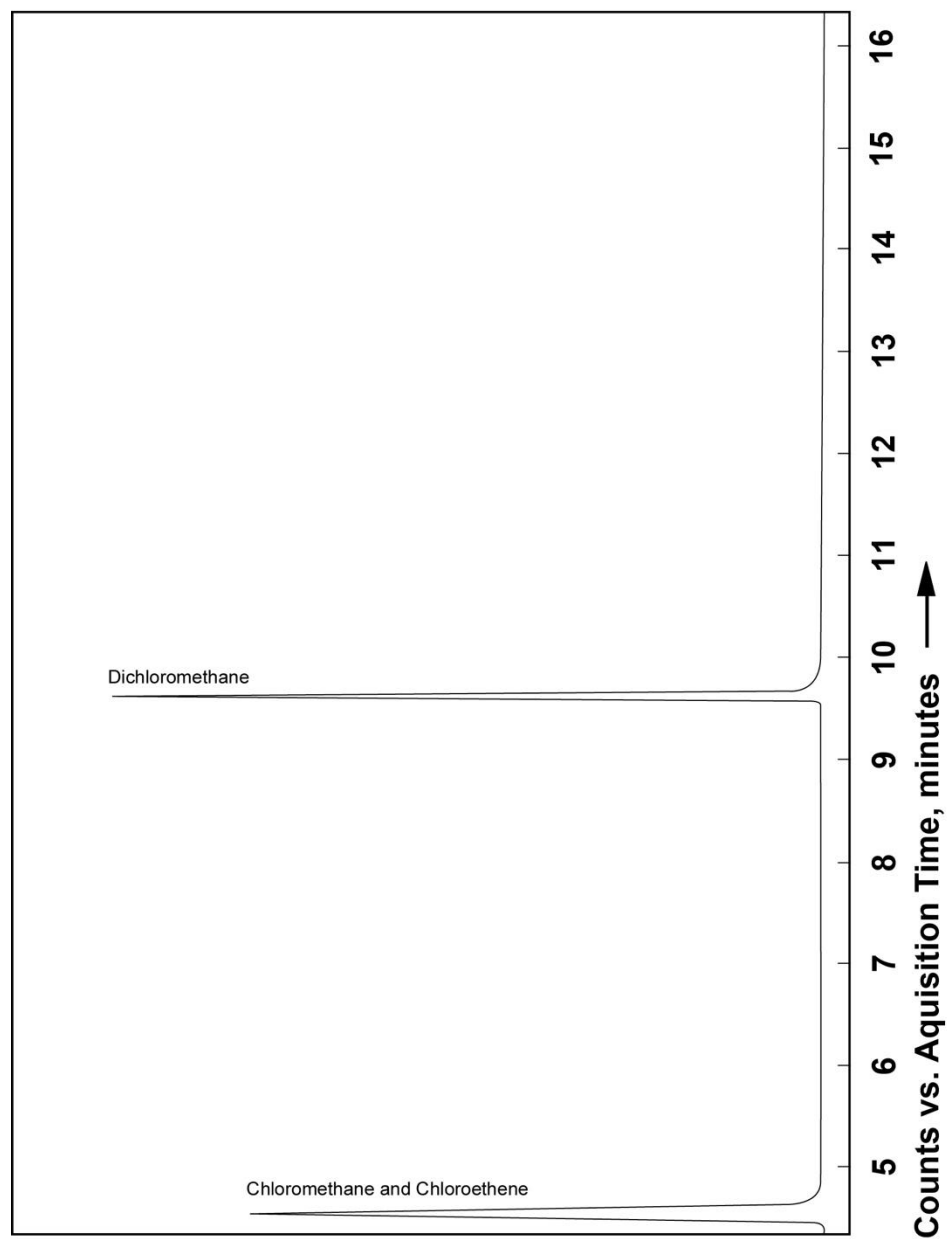

Figure 2a
- A typical total ion chromatogram is shown in Figures 2a and 2b for reference.